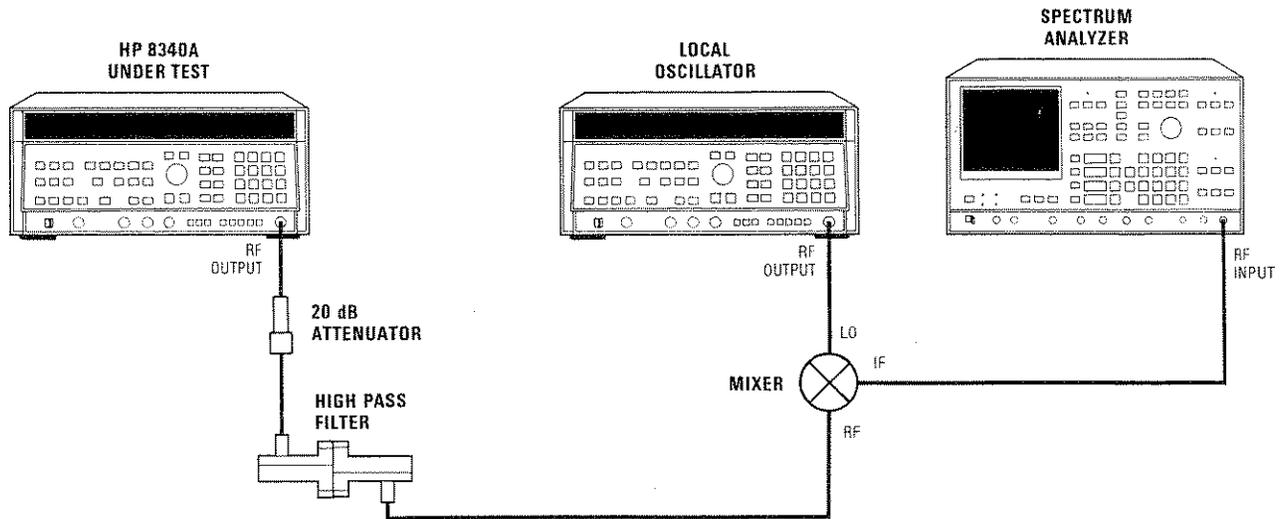

Figure 4-8. Spurious Signals Test Setup (22 to 26.5 GHz)
1. Connect equipment as shown in Figure 4-8. Allow at least a 30 minute warm up time. Press the Local Oscillator 8340A [**INSTR PRESET**] and [**PEAK**] on.